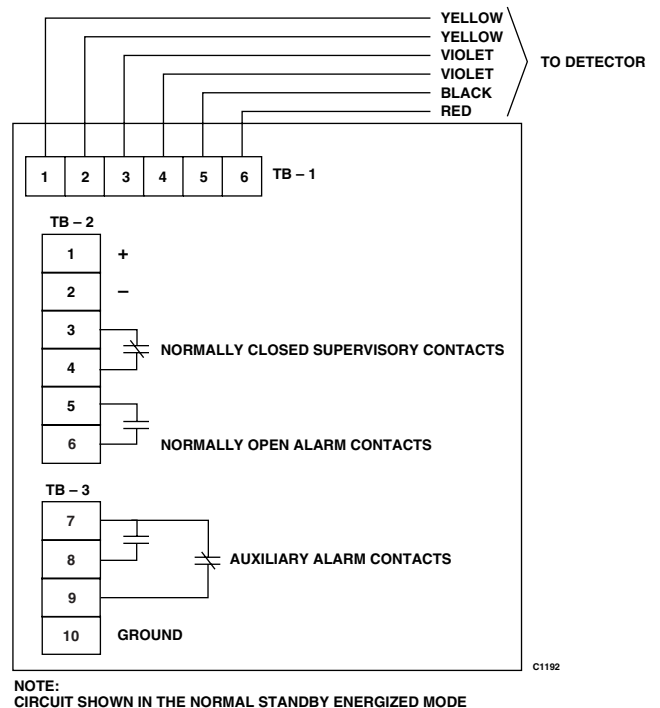

Figure 4—Wiring Terminals
7. External wiring is brought into the detector through the entry on the detector junction box or the M25 to 3/4 inch adapter. Connections are made to the terminal strips TB-2 and TB-3 of the junction box terminal board. Refer to the wiring diagrams in Figures 4, 5, and 6. Use care not to damage the wires by twisting them.